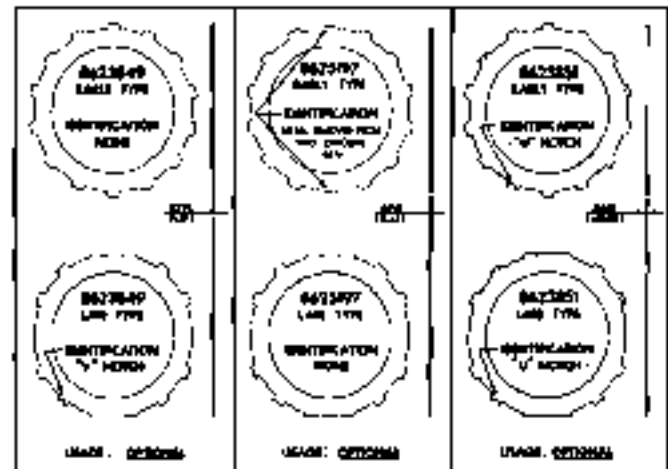

Fig. 7E-90 Clutch Plate Identification
3. Place Seal Protector Tool J 21362 over clutch hub and install outer clutch piston Seal Protector J 21409 into clutch drum and install piston, rotating piston on drum until seated (Fig. 7E-88).
4. Install sixteen (16) clutch release springs into pockets in piston.